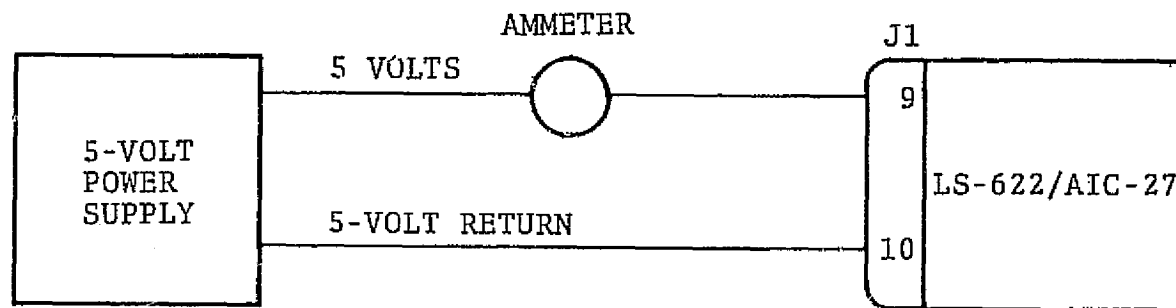

Figure 3-5. — Test setup: current requirement.
8. Connect a +5 volt power supply to pins 9 and 10 of J1, with an ammeter in series, as shown in figure 3-5.